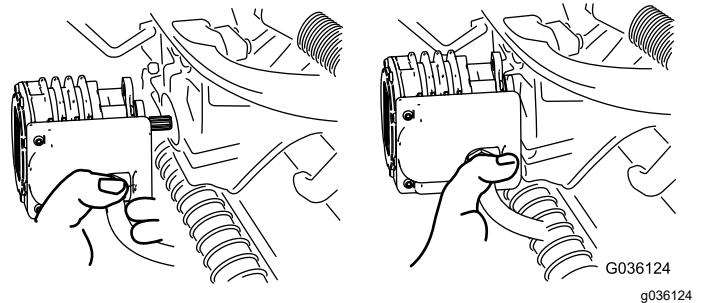

Figure 68
4. Move the motor to the storage location on the front of the suspension arm (Figure 68).